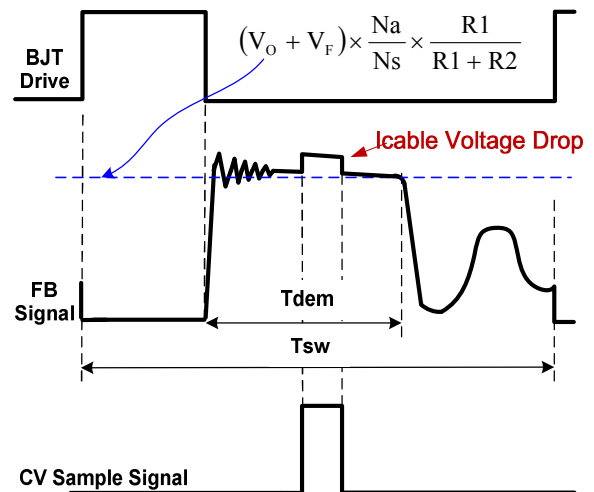

Fig.2
In primary side control, the output voltage is sensed on the auxiliary winding during the transfer of transformer energy to the secondary. Fig.2 illustrates the CV sampling signal timing waveform in DP2525JA. As shown in Fig.2, it is clear that there is a down slope representing a decreasing total rectifier V_f and its voltage drop as the secondary current decreases to zero. To achieve an accurate representation of the secondary output voltage on the auxiliary winding, the CV sampling signal blocks the leakage inductance reset and ringing. When the CV sampling process is over, the internal sample/hold (S&H) circuit captures the error signal and amplifies it through the internal Error Amplifier (EA). The output of EA is sent to the Primary Side Constant Voltage Modulator (PSR-CVM) for CV control. The internal reference voltage for EA is trimmed to 2V with high accuracy.
During the CV sampling process, an internal variable current source is flowing to FB pin for Cable Drop Compensation (CDC). Thus, there is a step at FB pin in the transformer demagnetization process, as shown in Fig.2. Fig.2 also illustrates the equation for “demagnetization plateau”, where V_o and V_f is the output voltage and diode forward voltage; R_1 and R_2 is the resistor divider connected from the auxiliary winding to FB Pin, N_s and N_a are